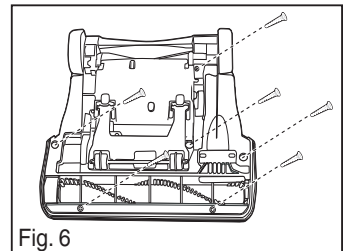

Fig. 6
- 11) Turn vacuum over and replace 6 screws (Fig. 6).
- 2) Clear blockage from base hose (Fig. 6). Check for debris in brush roll and clean if needed.